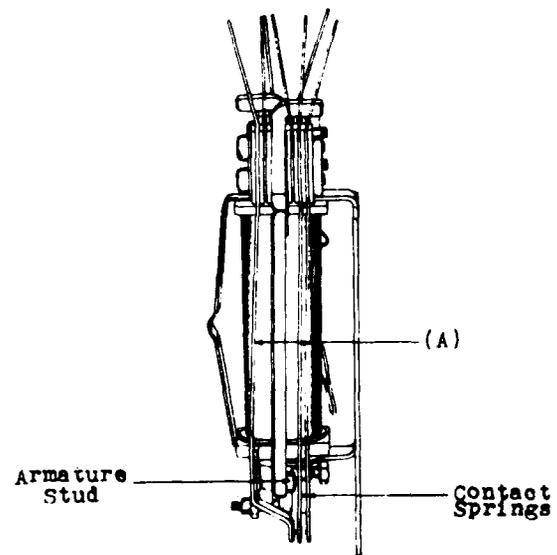

Fig. 6
2.12 Straightness of Springs - Fig. 6 (A) -